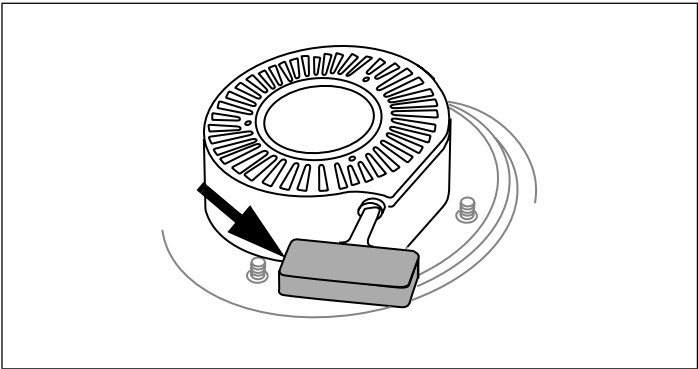

Figure 15. Recoil Starter
- 3. Grasp starter cord handle. See Figure 15.
3. Grasp starter cord handle. See Figure 15.